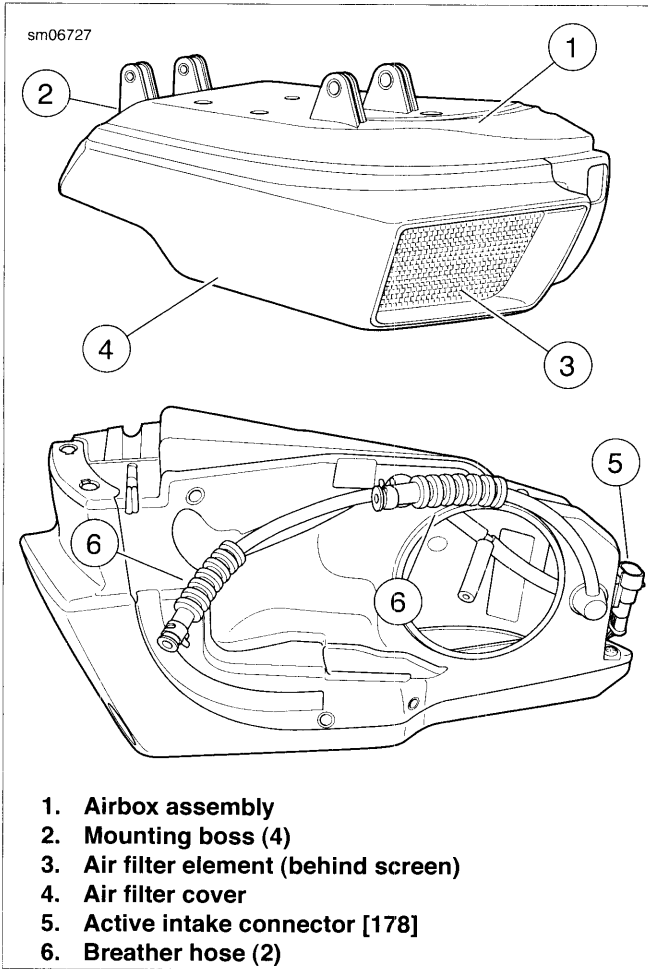

Figure 1-81. Airbox: XR Models
See Figure 1-81. The XR air filter element (3) is housed in the airbox assembly (1), mounted to the underside of the fuel tank on the right side of the vehicle. In order to remove the air filter element for service, the fuel tank must be removed from the vehicle.